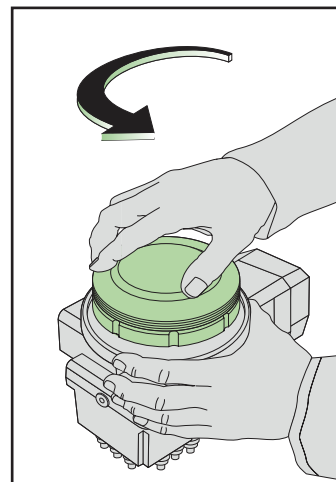

fig.6
2.Remove the empty cartridge. The cartridge is screwed onto the pump: to remove it, rotate it to the left (anticlockwise) (Fig 6) and lift it.